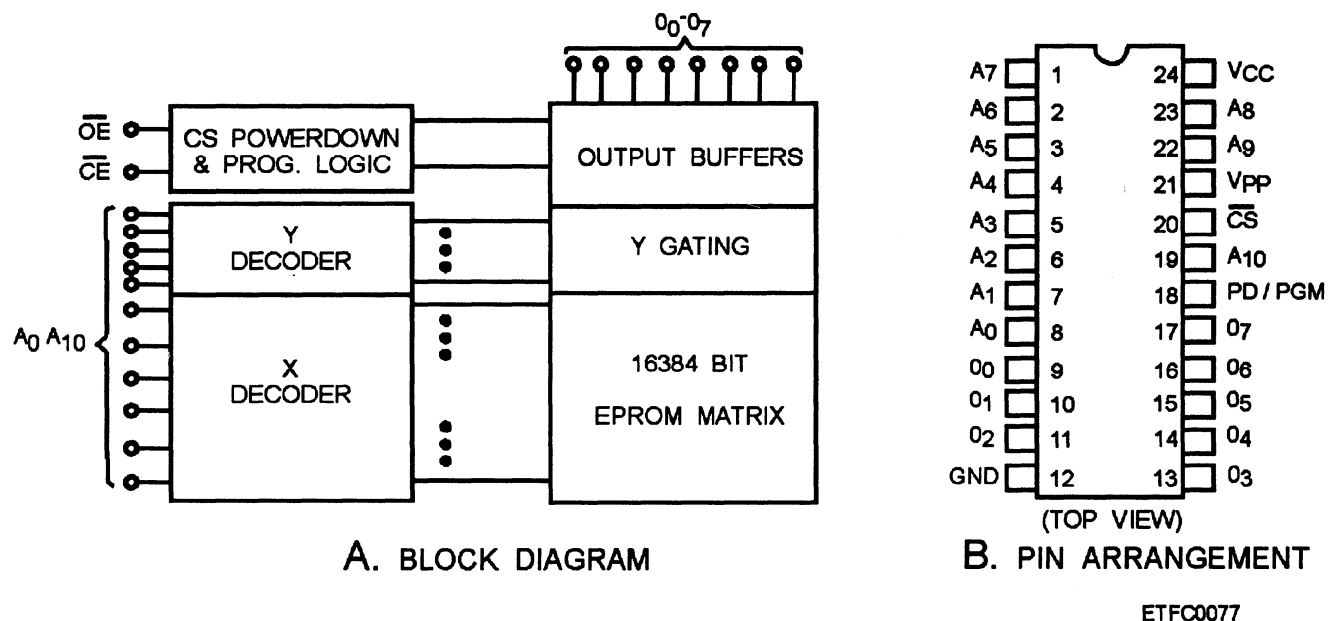

Figure 6-38.—Example of a MOS UV EPROM: A. Block diagram; B. Pin arrangement
**ULTRAVIOLET-ERASABLE PROM (UV EPROM OR EPROM).** —UV EPROMs/EPROMs trap a charge (1) in the cells to represent the data. To release the charge, the cells are exposed to the UV light for 30 minutes or less. UV EPROMs/EPROMs are usually programmed out of circuit. Figure 6-38 is an example of a  $2K \times 8$  UV EPROM; block diagram and pin assignments.